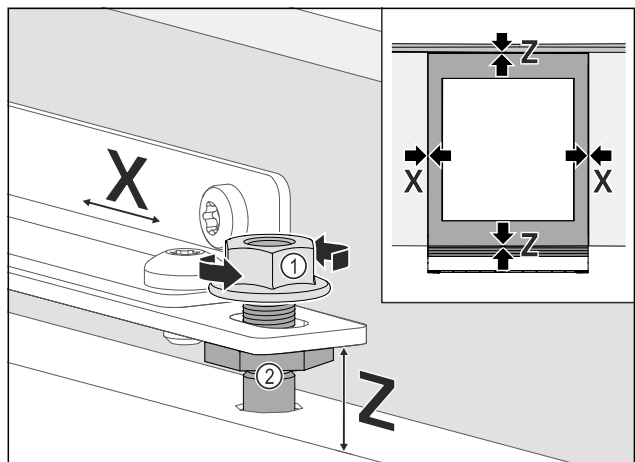

Fig. 76
- ▶ Align the unit door sideways: Loosen lock nut Fig. 76 (1), move unit door in X direction.
- ▶ Tighten the lock nuts *Fig. 76 (1)*.
- ▶ Align the unit door in height **Z** and in the lateral inclination: Adjust the adjustment bolt *Fig. 76 (2)*.